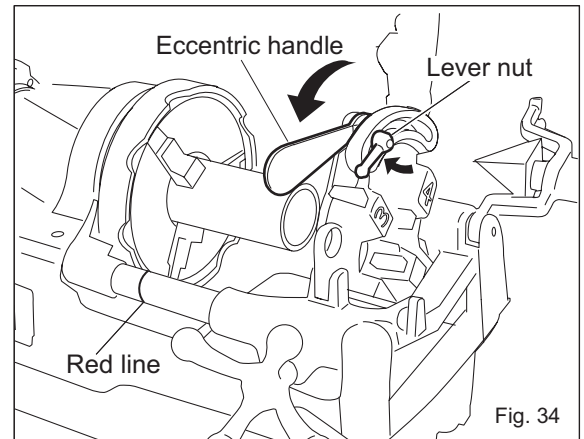

Fig. 34
If you start cutting a thread with the red line on the carriage support bar hidden from view, the carriage could knock into the base, which could lead to damage or possible injury. (Fig. 34)
- To match the size of the thread, align the scale on the Eccentric link (Fig. 32-1) with the thread size on the size scale on the die head, and then tighten and fix the lever nut in position (Fig. 34).